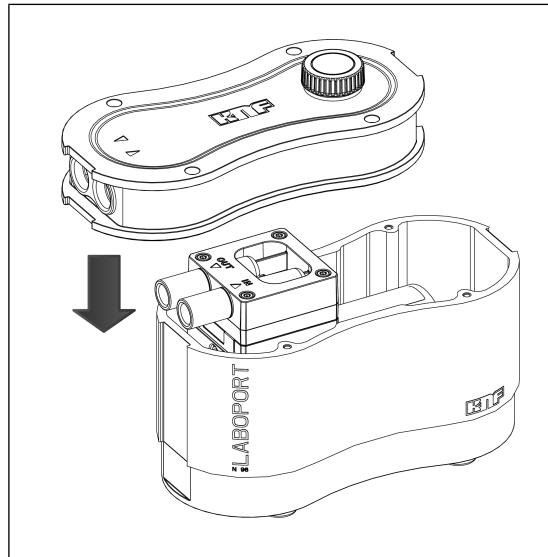

Fig. 12: Mounting the housing cover
1. Carefully place the housing cover (Fig. 7/2) on the pump housing (3) (see Fig. 12).